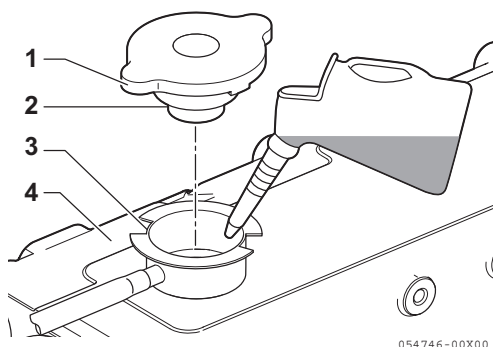

Figure 14
3. Pour coolant slowly into coolant tank (**Figure 14, (4)**) to avoid air bubbles. Fill until coolant overflows from the filler port.
4. Align filler cap tabs (**Figure 14, (1)**) with filler port notches (**Figure 14, (3)**) and tighten filler cap (**Figure 14, (2)**) firmly.